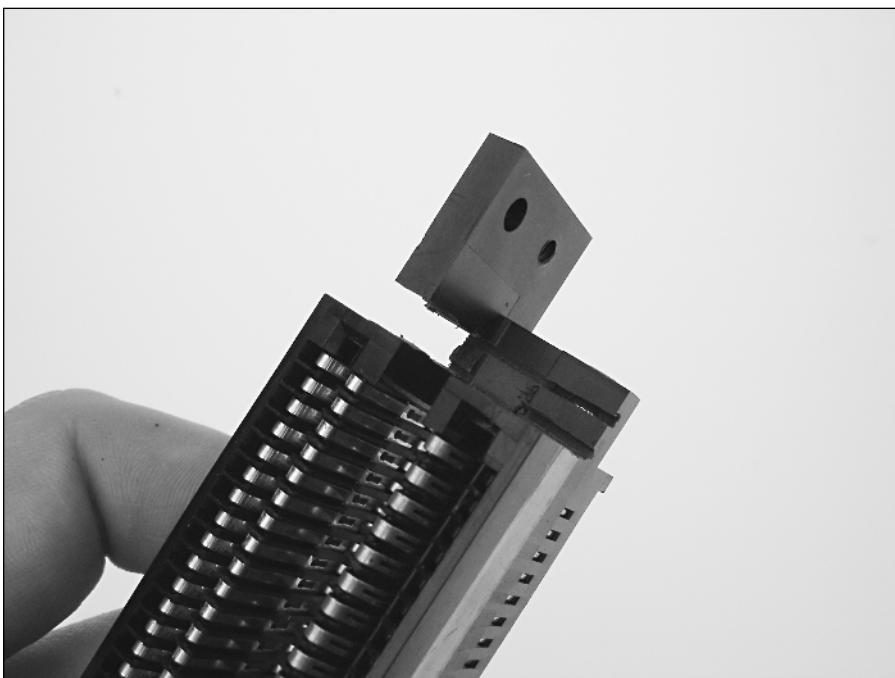

FIGURE 8-6: A close-up of one of the cut-out grooves.
2. To remove the plastic portions as shown, make one slice down the side of the main cartridge slot edge with your hacksaw and another about $3/16$ " to the side of it. Then you can grip the little peninsula of plastic between the cuts with needle-nose pliers and break it loose. Figure 8-6 shows a close-up of how the cut-out portion looks from a different angle.